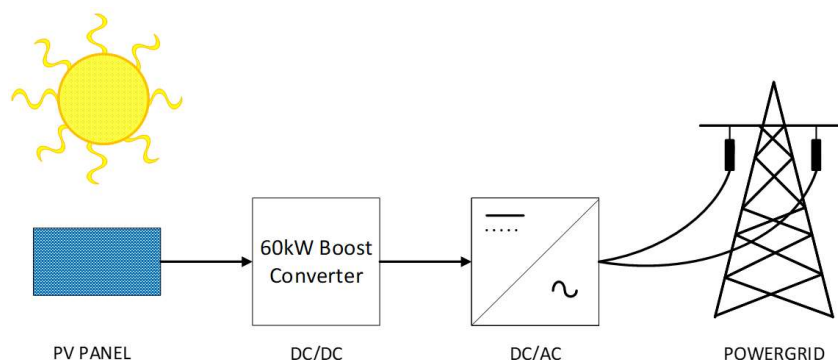

Figure 1. Solar Power Generation
There is a growing need for high efficiency DC/DC power converters in a variety of industrial power applications specifically in solar power generation. In solar power generation, the photovoltaic (PV) cells utilize the sun's energy to generate DC voltage which is usually in the range of 400VDC to 600VDC. This DC voltage needs to be boosted to 850VDC (approx.) so that an inverter (DC/AC) can generate 480VAC to feed the power of PV cells into the power grid (as shown in Figure. 1). Increasing the efficiency of the power conversion process enables designers to build smaller, lighter, and less expensive power converters.